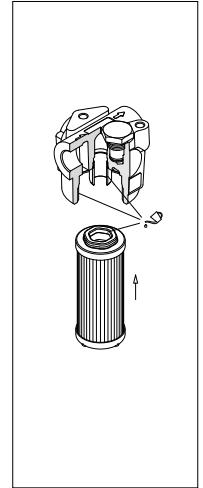

fig. 18
- (Fig. 18) Lubricate with the operating fluid the filter element Hex Ring, the housing tap and cavity, then fit the filter element on the tap. Pay attention not to damage the Hex Ring seal